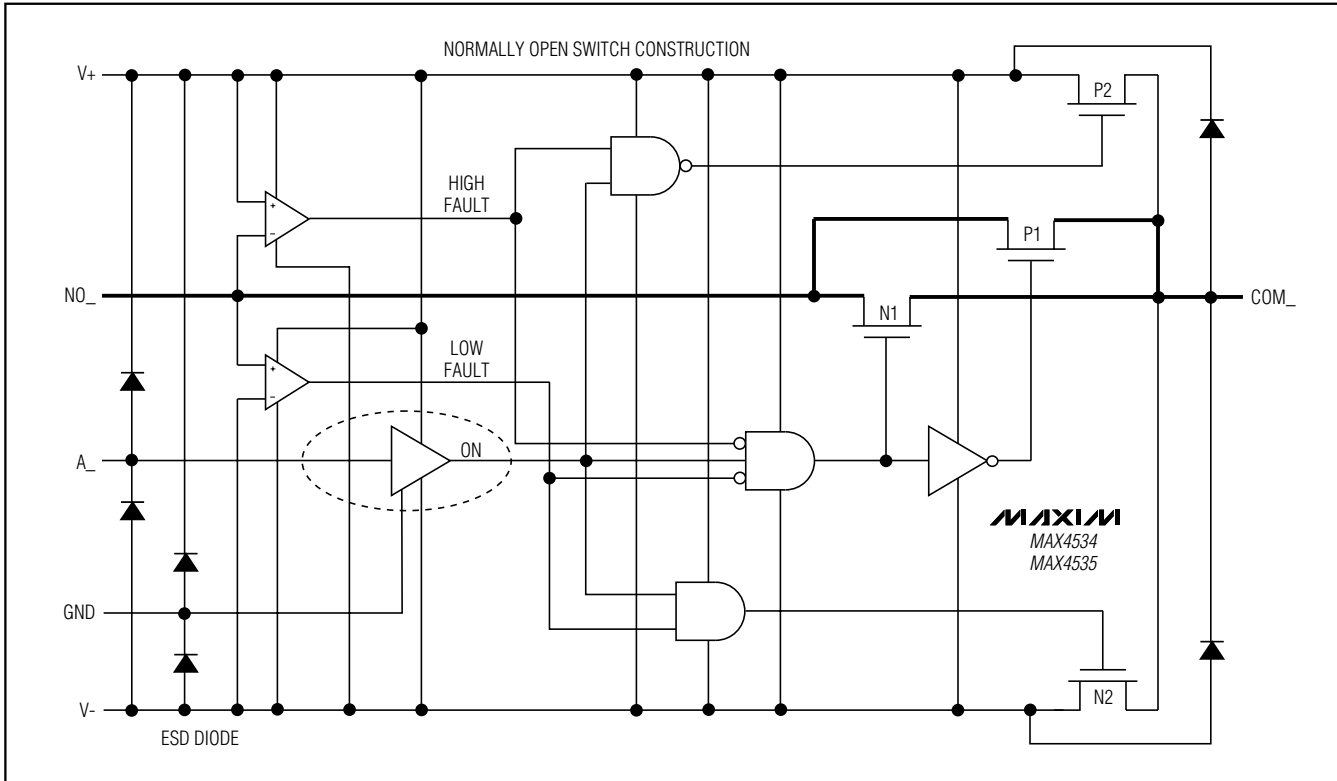

Figure 1. Functional Diagram
Figure 1 shows the internal construction, with the analog signal paths shown in bold. A single, normally open (NO) switch is shown. The analog switch is formed by the parallel combination of N-channel FET N1 and P-channel FET P1, which are driven on and off simultaneously, according to the input fault condition and the logic level state.
off in response to A- signals (Figure 1). The parallel combination of N1 and P1 forms a low-value resistor between NO- and COM- so that signals pass equally well in either direction.
When the signal on NO- exceeds V+ by about 150mV, the positive fault comparator output goes high, turning off FETs N1 and P1 (Figure 1). This makes the NO- pin high impedance regardless of the switch state. If the switch state is "off," all FETs turn off, and both NO- and COM- are high impedance. If the switch state is "on," FET P2 turns on, clamping COM- to V+.
When the signal on NO- goes about 150mV below V-, the negative fault comparator output goes high, turning off FETs N1 and P1 (Figure 1). This makes the NO- pin high impedance regardless of the switch state. If the switch state is "off," all FETs turn off, and both NO- and COM- are high impedance. If the switch state is "on," FET N2 turns on, clamping COM- to V-.
FETs N2 and P2 can source about ±10mA from V+ or V- to the COM1 pin in the fault condition (Figure 1). Ensure that if the COM1 pin is connected to a low impedance load, the 30mA absolute maximum current rating is never exceeded, both in normal and fault conditions.